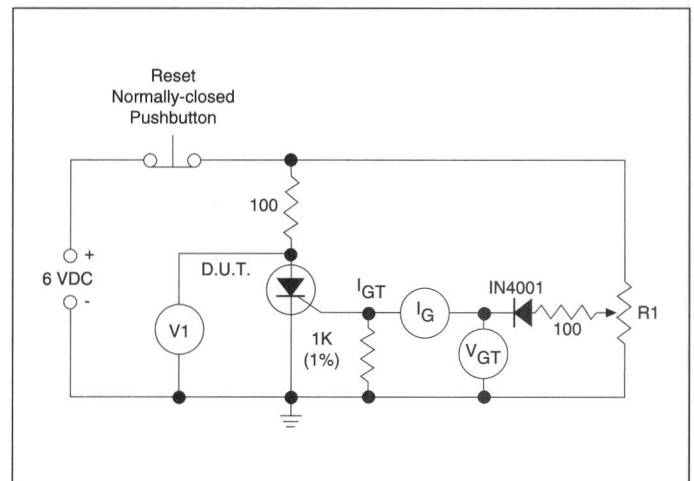

Figure 5.19 Simple Test Circuit For Gate Trigger Voltage and Current Measurement
- $V_D = 6VDC$, $R_L = 100\Omega$. See Figure 5.19 for simple test circuit for measuring gate trigger voltage and gate trigger current.